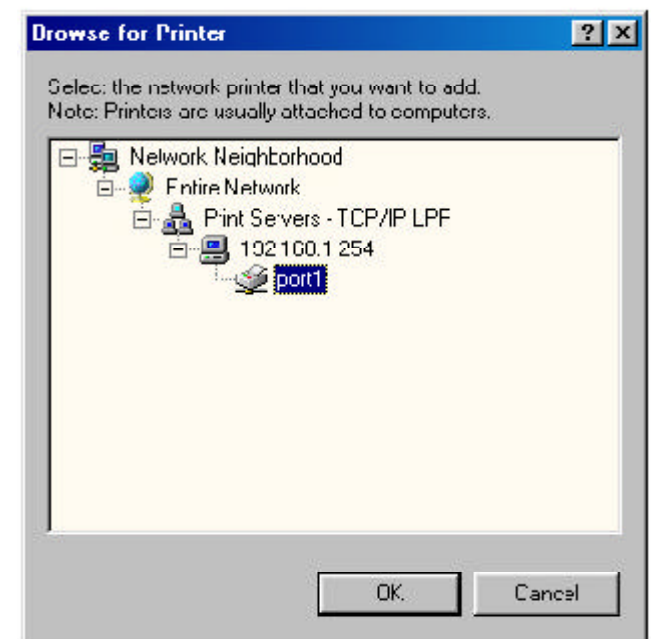

Fig. 4.14
Step 19 Browse to the **Printer Port**, highlight it, and click **OK**. See *Fig. 4.14*